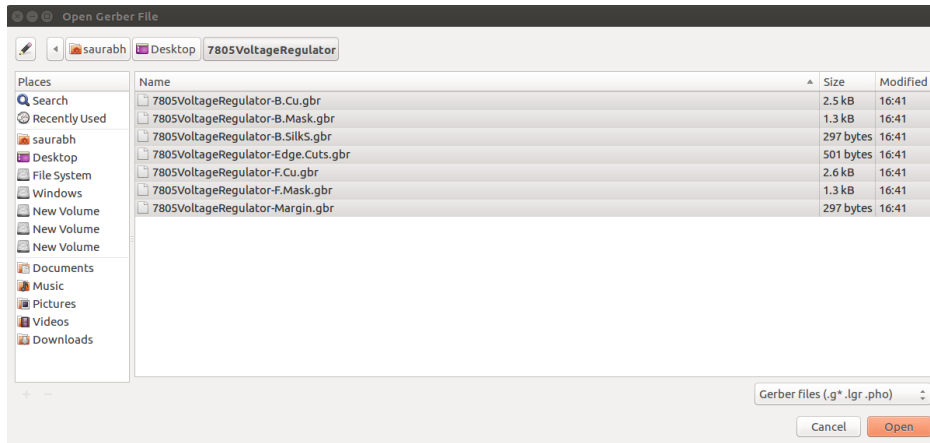

Figure 13.24: Loading gerber files in the gerbview
3. Go to the directory where you have stored the earlier created gerber files as shown in Fig. 13.24 and click on Open.